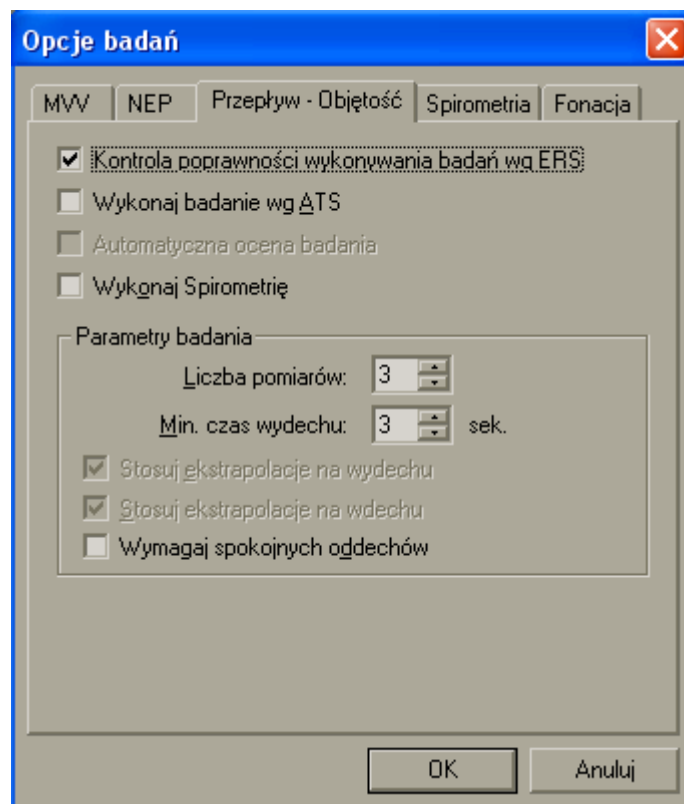

Fig. 7. Dialogue box *Test options – Flow-Volume*
Test options are accessible on the fold *Flow-Volume* (⇒ Fig.7) of *Test options* dialogue box (⇒ Chapter 3, item 2).